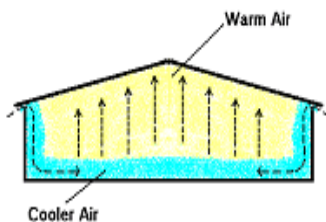

Figure 4a. Insufficient static pressure.
3. Insufficient static pressure will not allow the air to mix well. There will be stratification of warm air high and cold air low in the building. This is especially detrimental in the brooder. Optimal static pressure allows incoming air to mix and warm before reaching turkey level. Too high of a static pressure may also cause the air not to mix well. Incoming fresh air may shoot along the ceiling and never mix well with the air already present. (Figures 4a, 4b, and 4c).